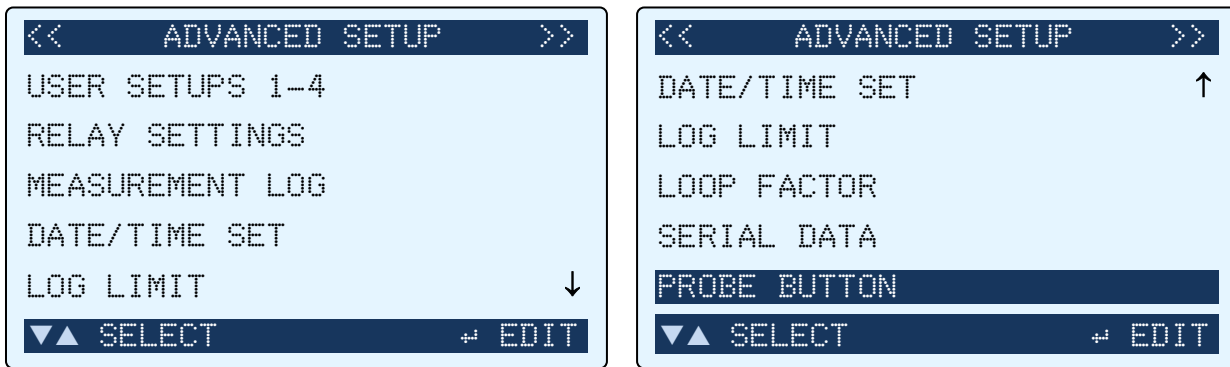

Figure 5-10. Options of the Advanced Setup Screen
**NOTE:** The function of the probe button located on the standard probe can be set through the Probe Button setting of the Advanced Setup menu. The Probe Button setting (see Figure 5-10 above) is only present (at the bottom of the Advanced Setup menu) if a Smart Probe is *not* automatically detected. Refer to section 5.6.8: Probe Button (on page 71) for more information.